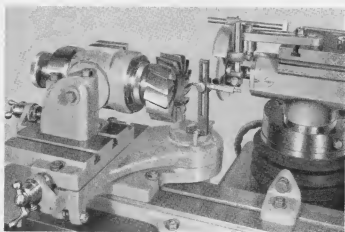
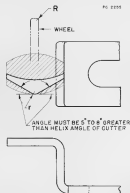

Figure 72A
Figure 74A
5. *Mounting Tooth Rest Assembly.* Using the saddle and table controls of the machine, position the attachment so corner of cutter tooth is approximately $1/64''$ to $1/32''$ from face of wheel (Figure 72A). Mount tooth rest assembly on top of wheelhead, adjust the blade to contact cutter tooth and as close to face of grinding wheel as possible. The point or portion of the blade upon which the cutter tooth slides must be directly in front of the grinding wheel and should be the *only* portion in contact with the cutter tooth. This is very important if the cutter is to mill a true radius after it is ground. Loosen spindle locking screw on rear of workhead (See Figure 74A for recommended shape of tooth rest blade. It can readily be made from a standard blade).